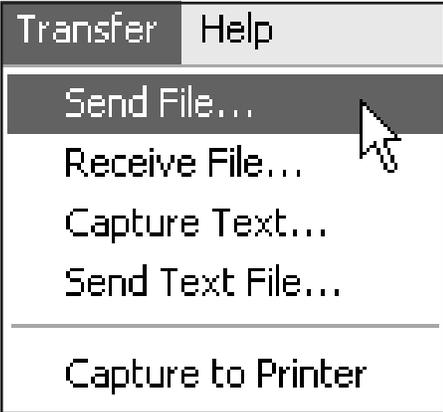

Figure 9 Transferring Files
- 6. Start the transfer by selecting **Transfer | Send File...** from the HyperTerminal menu as shown in Figure 9.